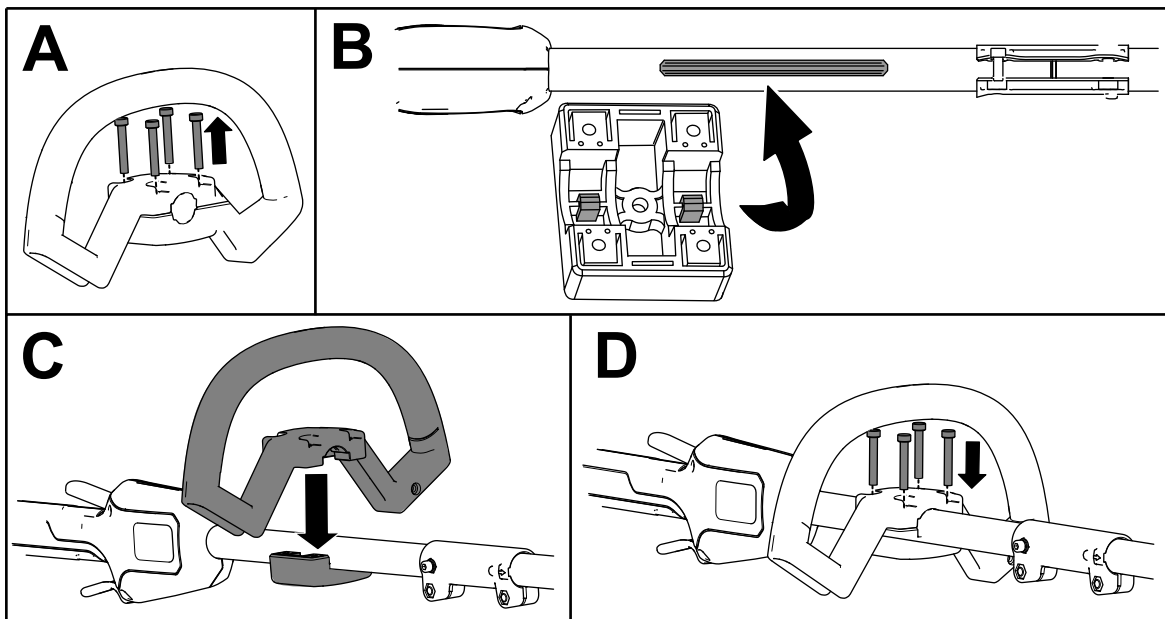

Figure 4
1. Separate the auxiliary handle from the handle plate by removing the 4 socket head screws using the provided Allen wrench (A of Figure 4).
2. Line up the guides on the auxiliary handle plate to the guide on the bottom of the trimmer shaft (B of Figure 4).
3. Line up the auxiliary handle with auxiliary handle plate on the trimmer shaft (C of Figure 4).
4. Secure the auxiliary handle to the handle plate with the 4 socket head screws previously removed (D of Figure 4).
3. Secure the guard onto the base of the trimmer with the 2 socket head screws, 2 washers, and 2 spacers previously removed (C of Figure 4).